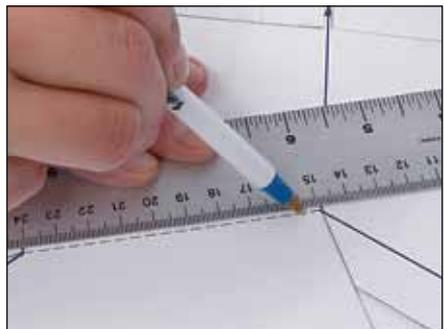

Figure 4
5. Using the ballpoint pen and a straightedge such as a ruler, roll the pen tip along all the dashed lines to lightly score the glued-together pieces (Figure 4).